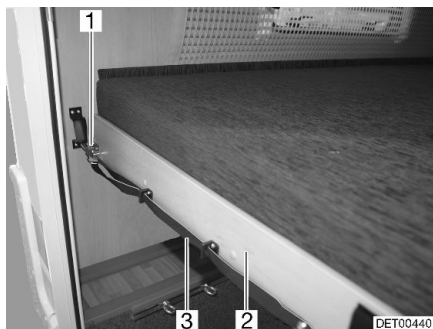

Fig. 52 Bunk bed (rear)
- Pull on the loop (Fig. 52,3) and release the latch (Fig. 52,1).
- Pull the slatted frame (Fig. 52,2) together with the mattress forward until it latches in place.